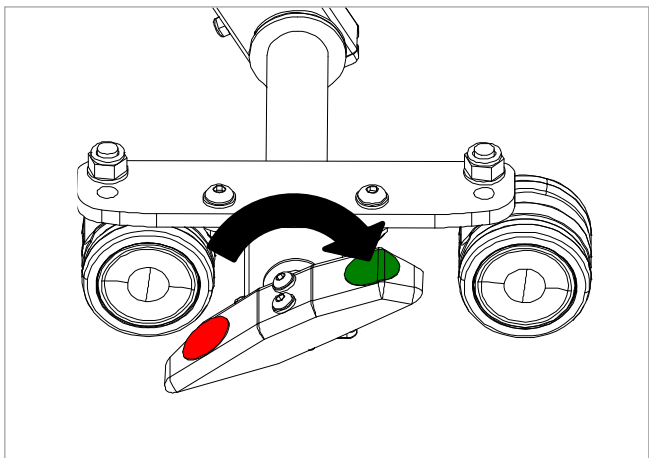

Figure 14.4
- 2. To unlock the brake, press firmly downwards on the side of the pedal with the green label as shown in Figure 14.4 until the brake releases.